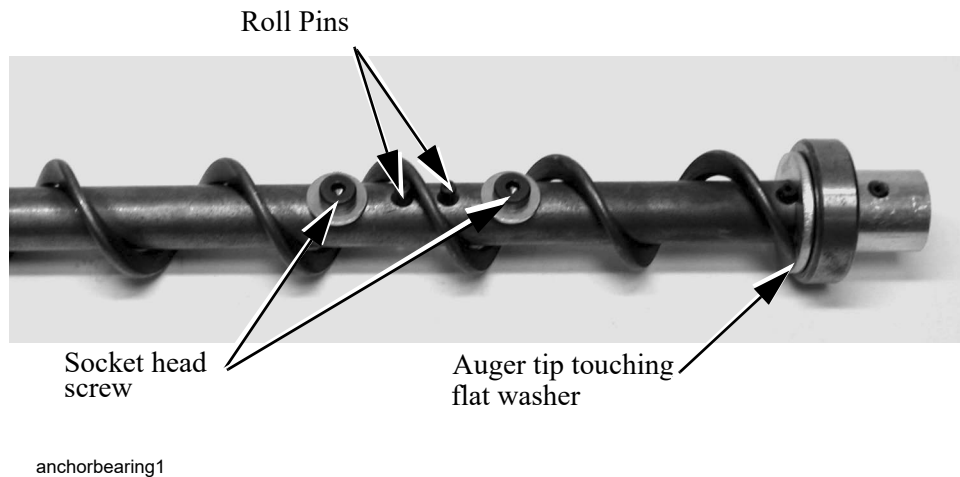

Figure 40. Wiring the Motor
12. Insert the Anchor Assembly into the auger until it touches the washer at the back of the anchor. Tighten the setscrews in the center of the anchor until they touch the auger, then tighten a maximum of 1/2 turn. See **Figure 40**.